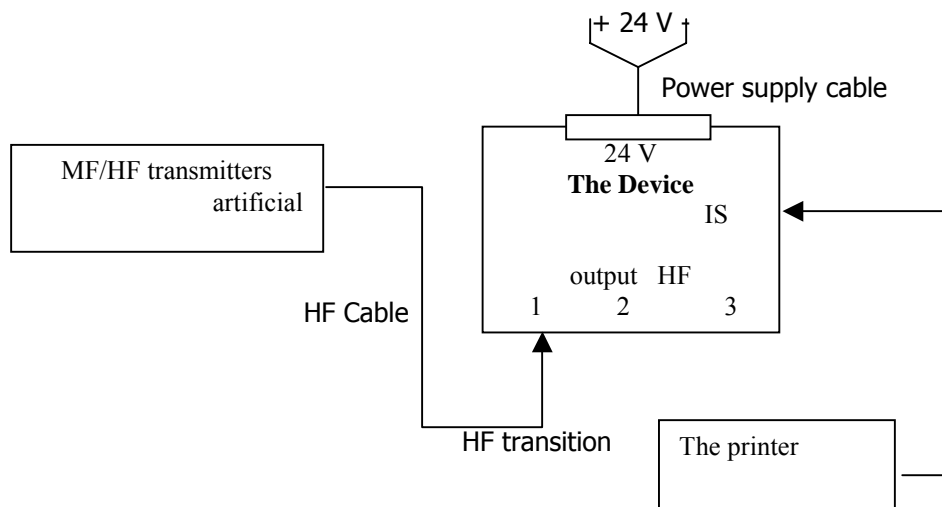

Fig.6.2.
6.3. Quality of the reception of the DSC messages in MF/HF ranges is checked under the block diagram of a fig. 6.2, connect " Output. HF-1 " HF- cable of the device with MF/HF antenna input of the DSC receiver of the checked equipment.